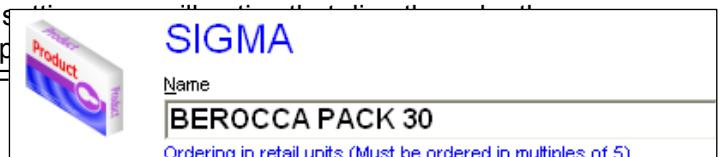

Figure 133
3. Once you have entered the ordering settings, the 'Name' field, 'Blue Helper Text' will appear based on your order quantities (see Figure 133).
- Retail Units (Figure 133)